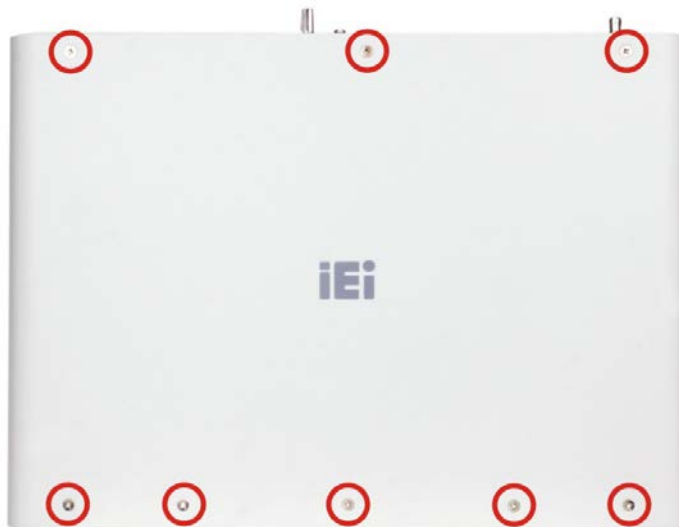

Figure 3-1: Top Cover Retention Screws
- Step 1:** Remove the top cover retention screws. The top cover is secured to the chassis with 8 retention screws. All screws must be removed (**Figure 3-1**). If some of the screws are attached with stickers, remove the stickers first.